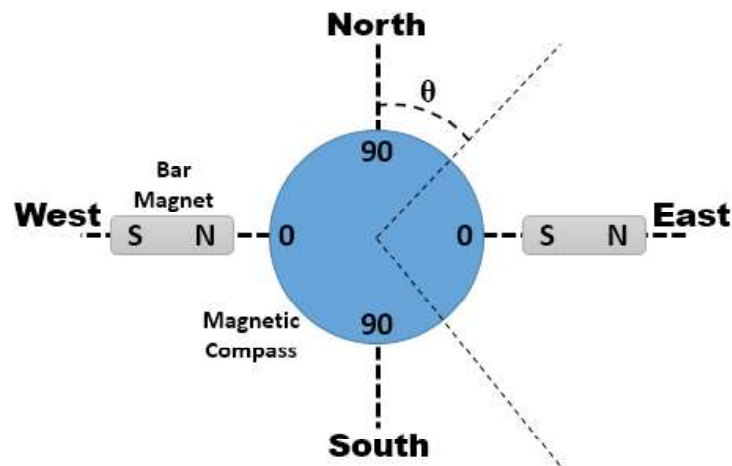

Fig. 2
The magnetic field between the center of the electrically charged plates cannot be measured using a gauss meter as the magnetic field produced by the bar magnets is quite small. Therefore, the magnetic field strength was calculated using a magnetometer. In this method, bar magnets are placed perpendicular to the horizontal component of earth's magnetic field ( $B_H$ ) (Refer Figure 2). The CRT is aligned parallel to the magnetic meridian.
9. The CRT is now removed without disturbing the arms and a compass is placed in its place such that its center comes in between the bar magnets. And set it the way such that the 0-0 line is perpendicular to the magnetic line (Refer Figure 2). Place the magnets at the same distance and orientation and note down the deflection of the magnet.